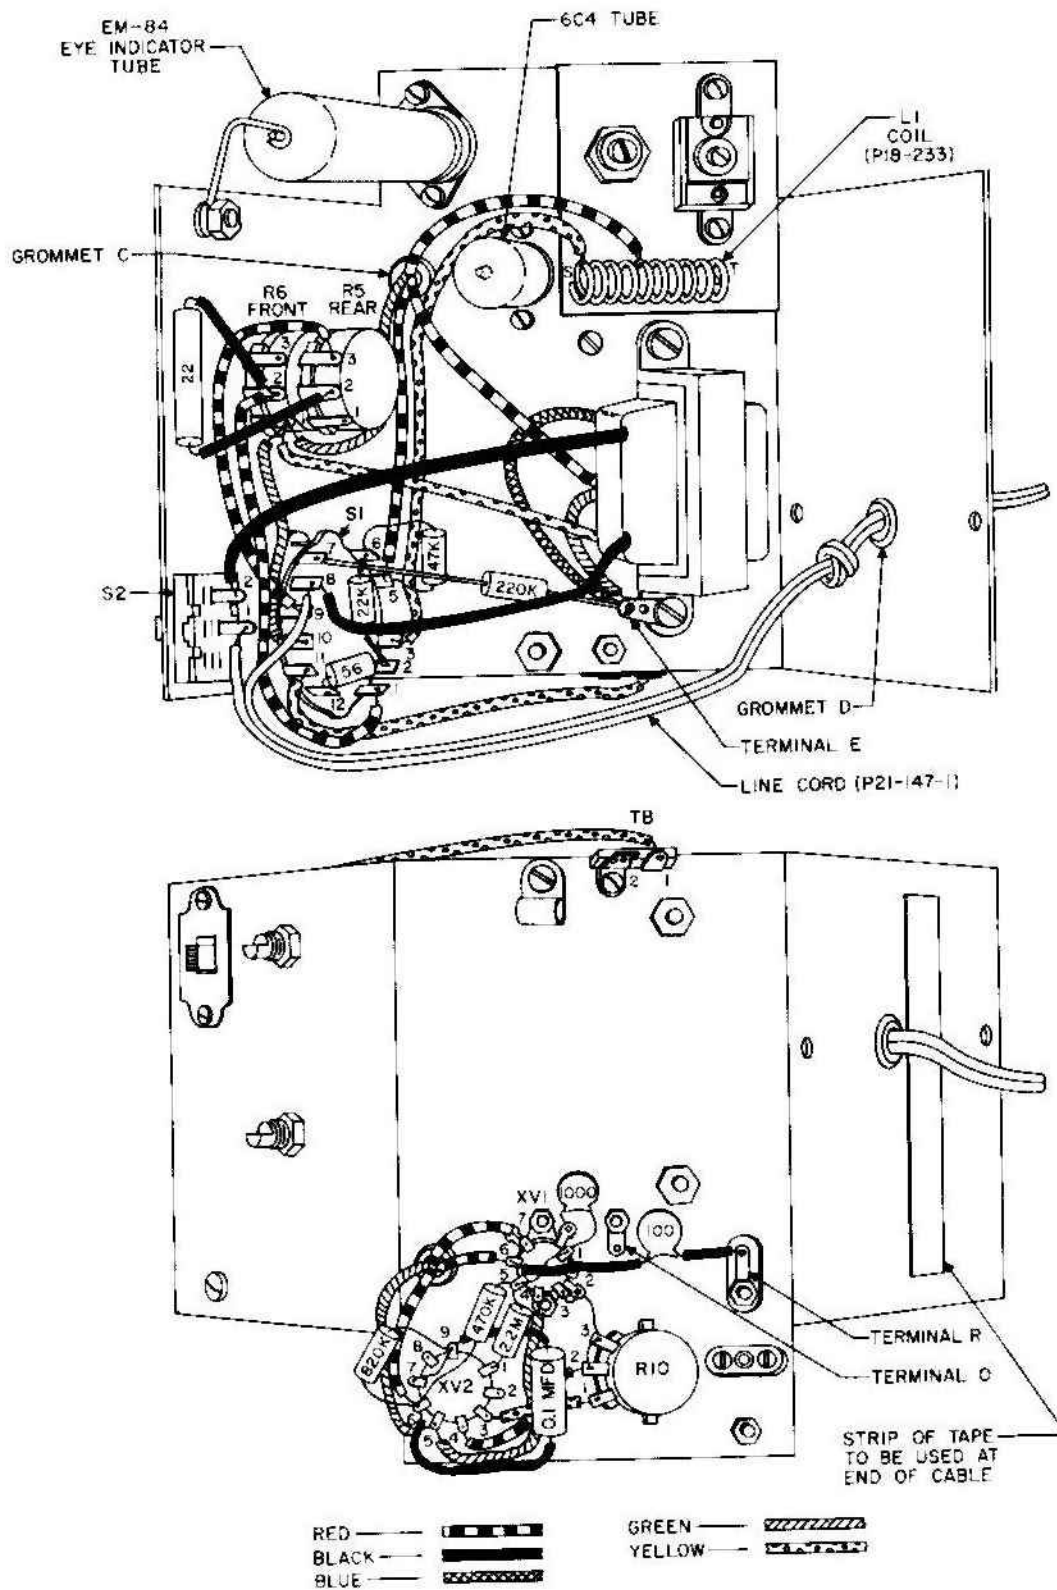

Figure 7. Wiring Diagram
REFER TO FIGURE 7
- () 29. Set the ends of the coil into holes "S" and "T" (figure 7) in the coil mounting strip. Squeeze or spread the coil slightly, if necessary, to accomplish this. Then, turn the chassis over and guide the coil ends through the solder hole in terminal lugs "O" and "R". Move or bend the lugs, if required. Press coil flush against coil mounting strip. Do not crimp the coil ends. Cut off excess of coil ends and solder one coil end to the terminal lug "O". If coil does not fit through small holes, it may be necessary to loosen R10 slightly and shift the coil mounting strip accordingly. Then retighten R10.
- () 37. Refer to figure 7 and install both tubes in their respective sockets. Adjust the wire tube end holder so that it presses on the tube tip and holds the tube erect.